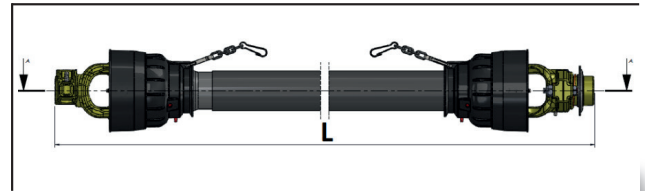

Figure 13- Overall length of PTO shaft in closed position.
For example; if the distance between PTO shaft and machine gearbox is 1100 mm, and the distance (L) between the right and left pin of the P.T.O. shaft is 1200 mm (See Figure 13); the amount to be cut from both halves of the P.T.O. shaft is 100 mm. (Do not forget that this may seem like the shaft has been shortened by 20 mm, but when the two halves are put back together this becomes 100 mm! (Figure 14.A, 14.B and 14.C.)